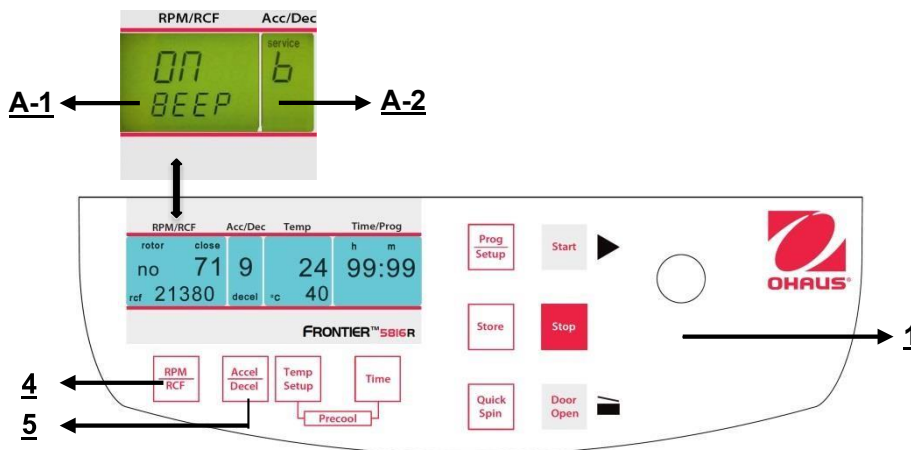

Figure. 38
Proceed as described under point 4.1.1 to enter this program mode and then press the key "**Accel/Decel**" (5). In the display "**Acc/Dec**" (A-2) the word "**Service**" flashes. Now select the letter "**B**" with the adjusting knob (1). As a result, in the display "**RPM | RCF**" (A-1), the word "**ON/BEEP**" appears. After pressing the key "**RPM | RCF**" (4), you can turn the keyboard sound (On) or (Off) with the adjusting knob (1). (See figure 38).